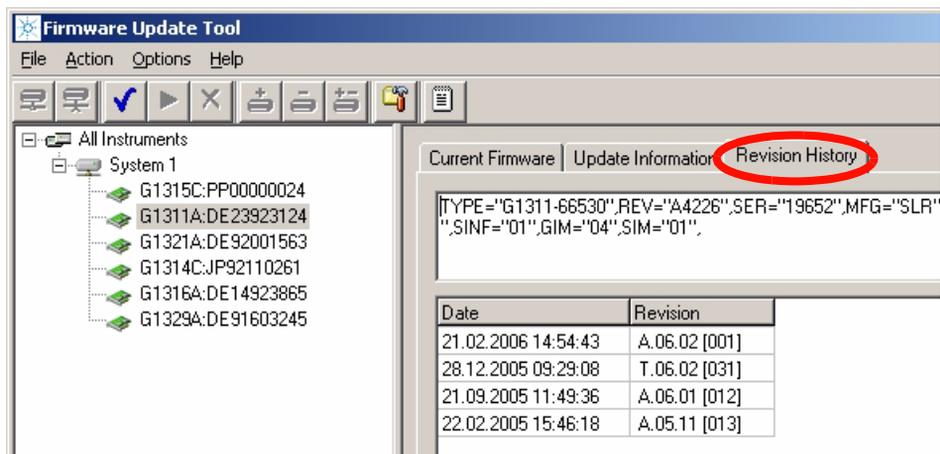

Figure 26 Specific module is selected - Revision History Information screen
- 3 Select the **Revision History** tab. This window shows details on the used main board and the update history in the module, see Figure 26.